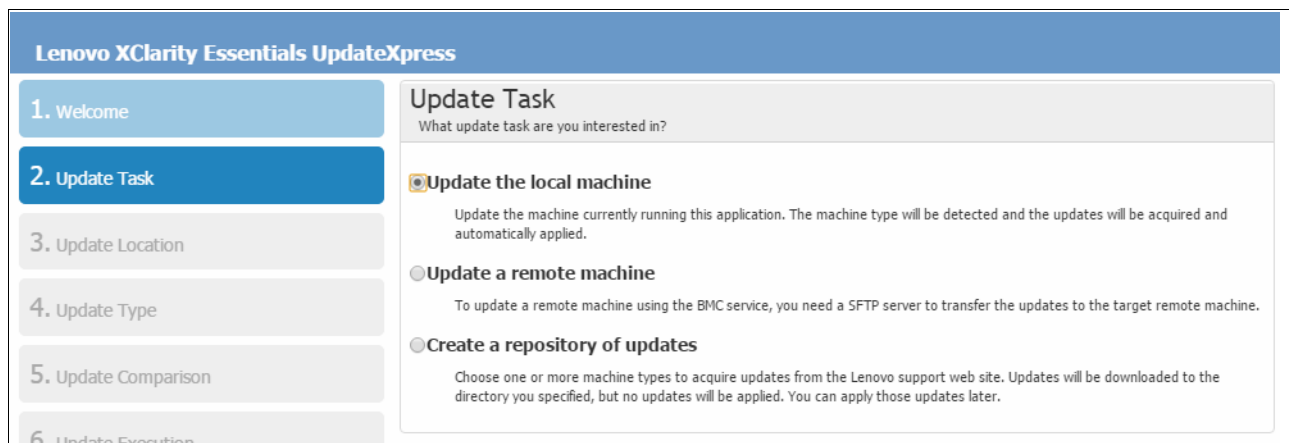

Figure 5-48 Selecting the update task
4. Select the way in which you will want to download/apply the updates, as shown in Figure 5-48. Click **Next**.